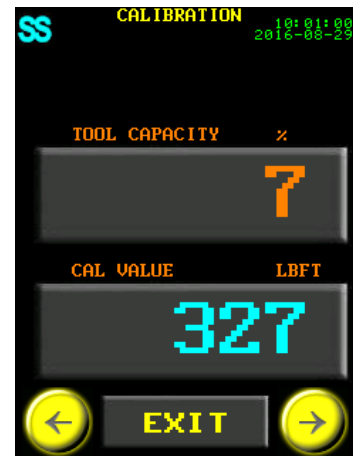

Figure 6-5: Calibration Value from Sensor/Smart Socket
9. Do one Torque Cycle. Skip steps 10 – 13 if the E-RAD BLU is connected to a Smart Socket via Bluetooth. The torque read from the Smart Socket will be automatically entered. The number will be coloured blue (Figure 6-5).